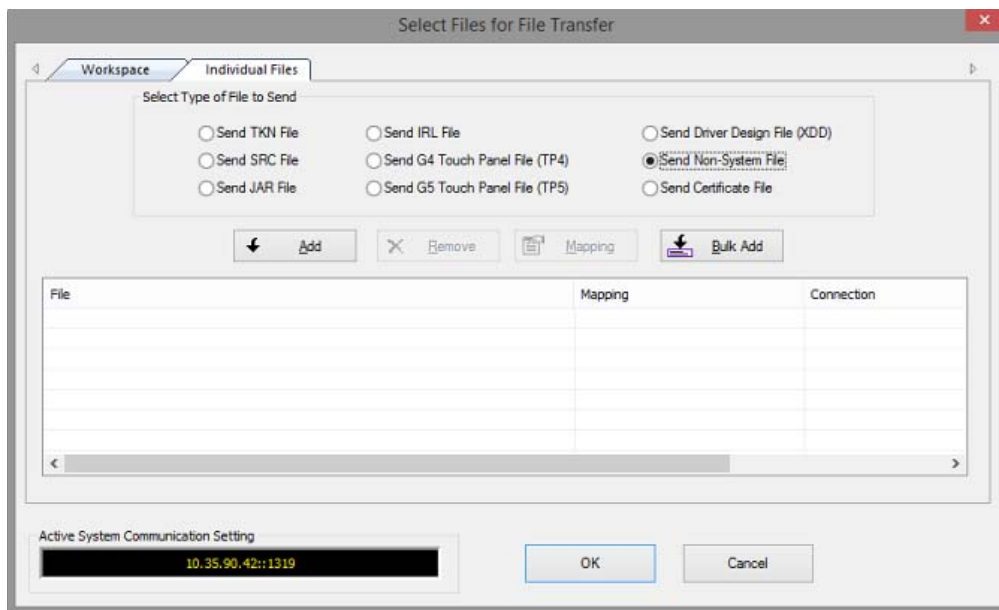

FIG. 141 NetLinx Studio 4 - Select Files for File Transfer dialog (Individual Files tab)
2. Click **Add** to open the *Select Files for File Transfer* dialog, open the *Individual Files* tab and select **Send Non-System File** (FIG. 141):